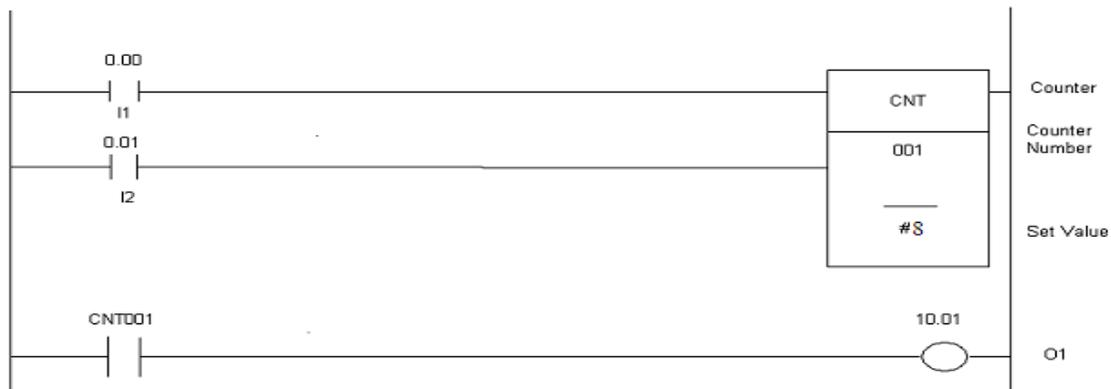

Figure 1
1. Develop the given ladder logic in Figure 1 in this window by following these steps: